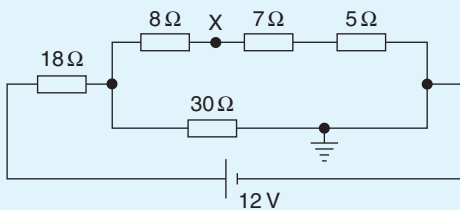

Figure 5.52
2. For the circuit shown in Fig. 5.52, calculate (a) the voltage drop across the 7 Ω resistor, (b) the current through the 30 Ω resistor, (c) the power developed in the 8 Ω resistor, (d) the voltage at point X w.r.t. earth, and (e) the absolute voltage at point X.